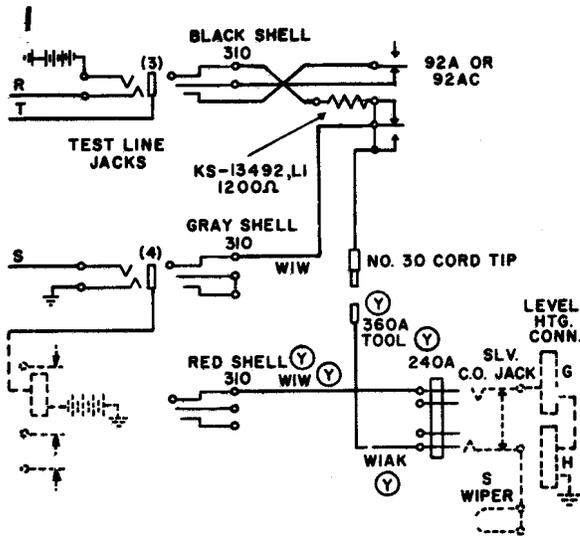

Fig. 1
2.05 Special test cords to be made up locally per Fig. 1 (or equivalent) (remove the No. 59 cord tips from the WLW cords and the banana plug from the WLAK cord before connecting these cords as shown in Fig. 1).
4.25 Insert the black and gray shelled No. 310 plugs of the special test cord (Fig. 1) into the No. 3 and No. 4 test line jacks, respectively, on the connector frame. The cord and apparatus designated (Y) is used only when testing level hunting connector shelves.
Note 1: To test level hunting connector shelves insert the black and red shelled No. 310 plugs of the special test cords (Fig. 1) into the No. 3 and No. 4 test line jacks, respectively, on the connector frame. Connect the No. 360 tool to No. 30← cord tip. Insert the No. 240A plug into the sleeve cutoff jack of the connector per